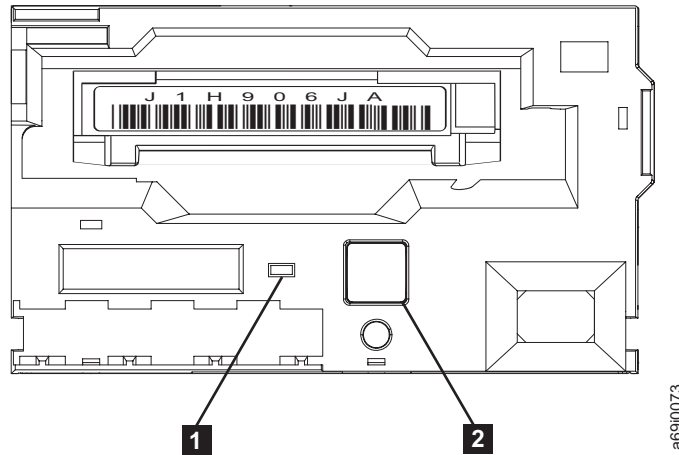

Figure 37. Removing a cartridge from a 3592 tape drive
- a. Ensure that the green power indicator light is on (see 1 in Figure 37 on page 88).